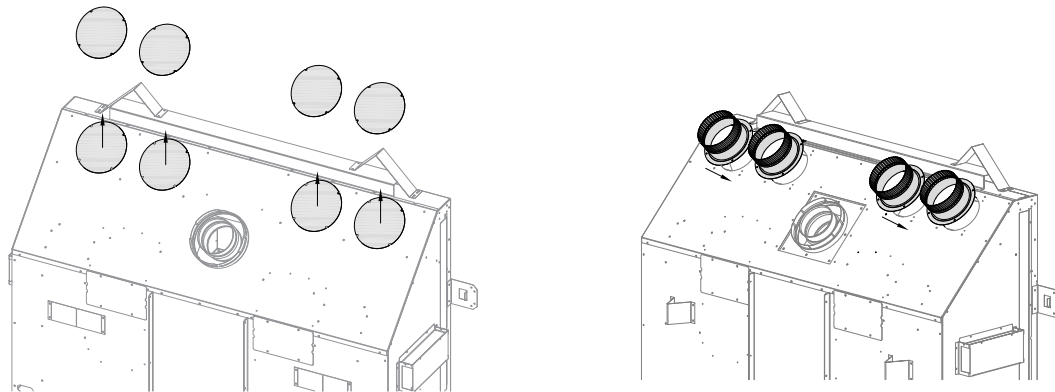

Figure 4.1 - Cover Plate Removal and Collar Installation
1. Remove the (16) sheet metal screws that secure the (4) cover plates at the top of the fireplace shown in Figure 4.1. Discard these four cover plates. Save the sheet metal screws for the next step.
2. Install the KZK collars that were provided with KZK-054 as shown in Figure 4.1. Reuse the sheet metal screws from the previous step.